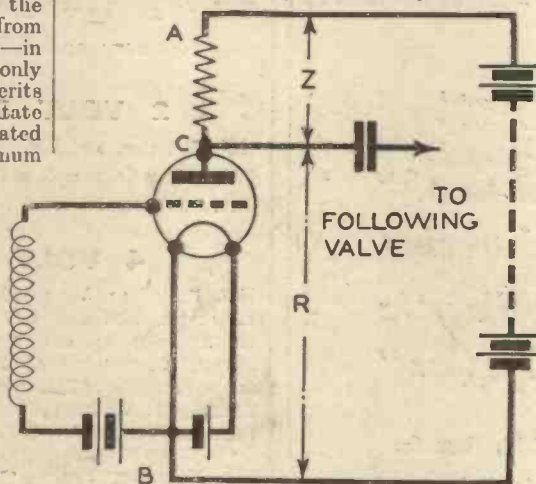

Fig. 1.—A simple diagram to illustrate stage gain.
Many listeners find it a little difficult to understand why the factor $\frac{Z}{Z+R}$ should appear in this formula, but it can be explained very simply. Fig. 1 represents an amplifying valve with its anode load and high-tension supply, a triode valve being chosen in this case, the load being a resistance. Owing to the action of the signal upon the grid, a signal-frequency current passes through the circuit, and as the circuit has impedance there will be an A.C. voltage drop across the points A and B. The impedance of the circuit A to B consists of two parts—the impedance
It is possible, therefore, to re-draw Fig. 1 as in Fig. 2, in which the load AC (Z) remains as before and the valve CB is represented by another impedance, R. It will be appreciated that the part AB is now in effect a potentiometer of total impedance Z+R, and the signal voltage which is tapped off for application to the grid of the following valve is the alternating voltage drop across Z. As in all potentiometers, this voltage bears the same proportion to the total voltage across the potentiometer as the resistance of the part AC bears to the total resistance. The impedance of the part AC is Z, and of the whole Z+R, so that the desired ratio is $\frac{Z}{Z+R}$.